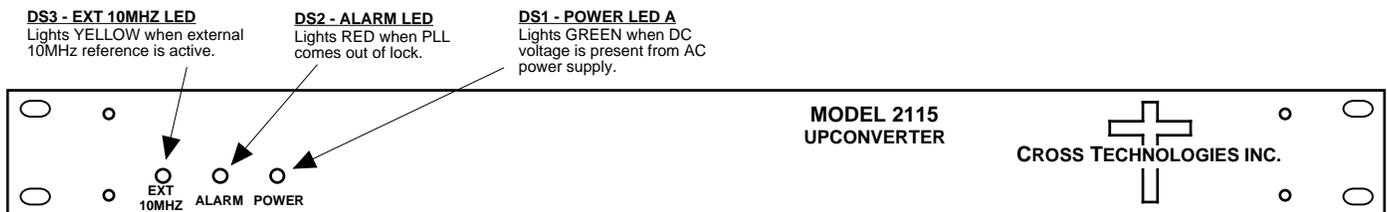

FIGURE 2.2 2115-137 Front Panel Controls and Indicators
4. Be sure DS1 (green, DC Power) is on and DS2 (red, Alarm) is off (Figure 2.2).
6. If EXT is selected or AUTO is selected and there is a 10MHz, +3 dBm signal at J2, check that DS3 (yellow, Ext 10MHZ) is on (Figure 2.2).